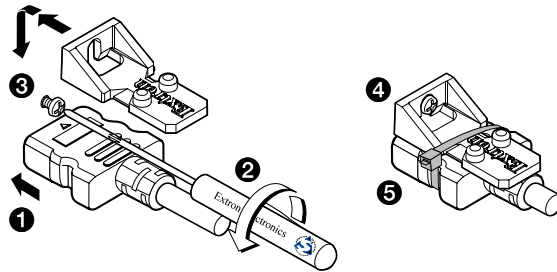

Figure 4. Installing the LockIt Lacing Bracket
1. Plug the HDMI cable into the panel connection (see figure 4, **1**).